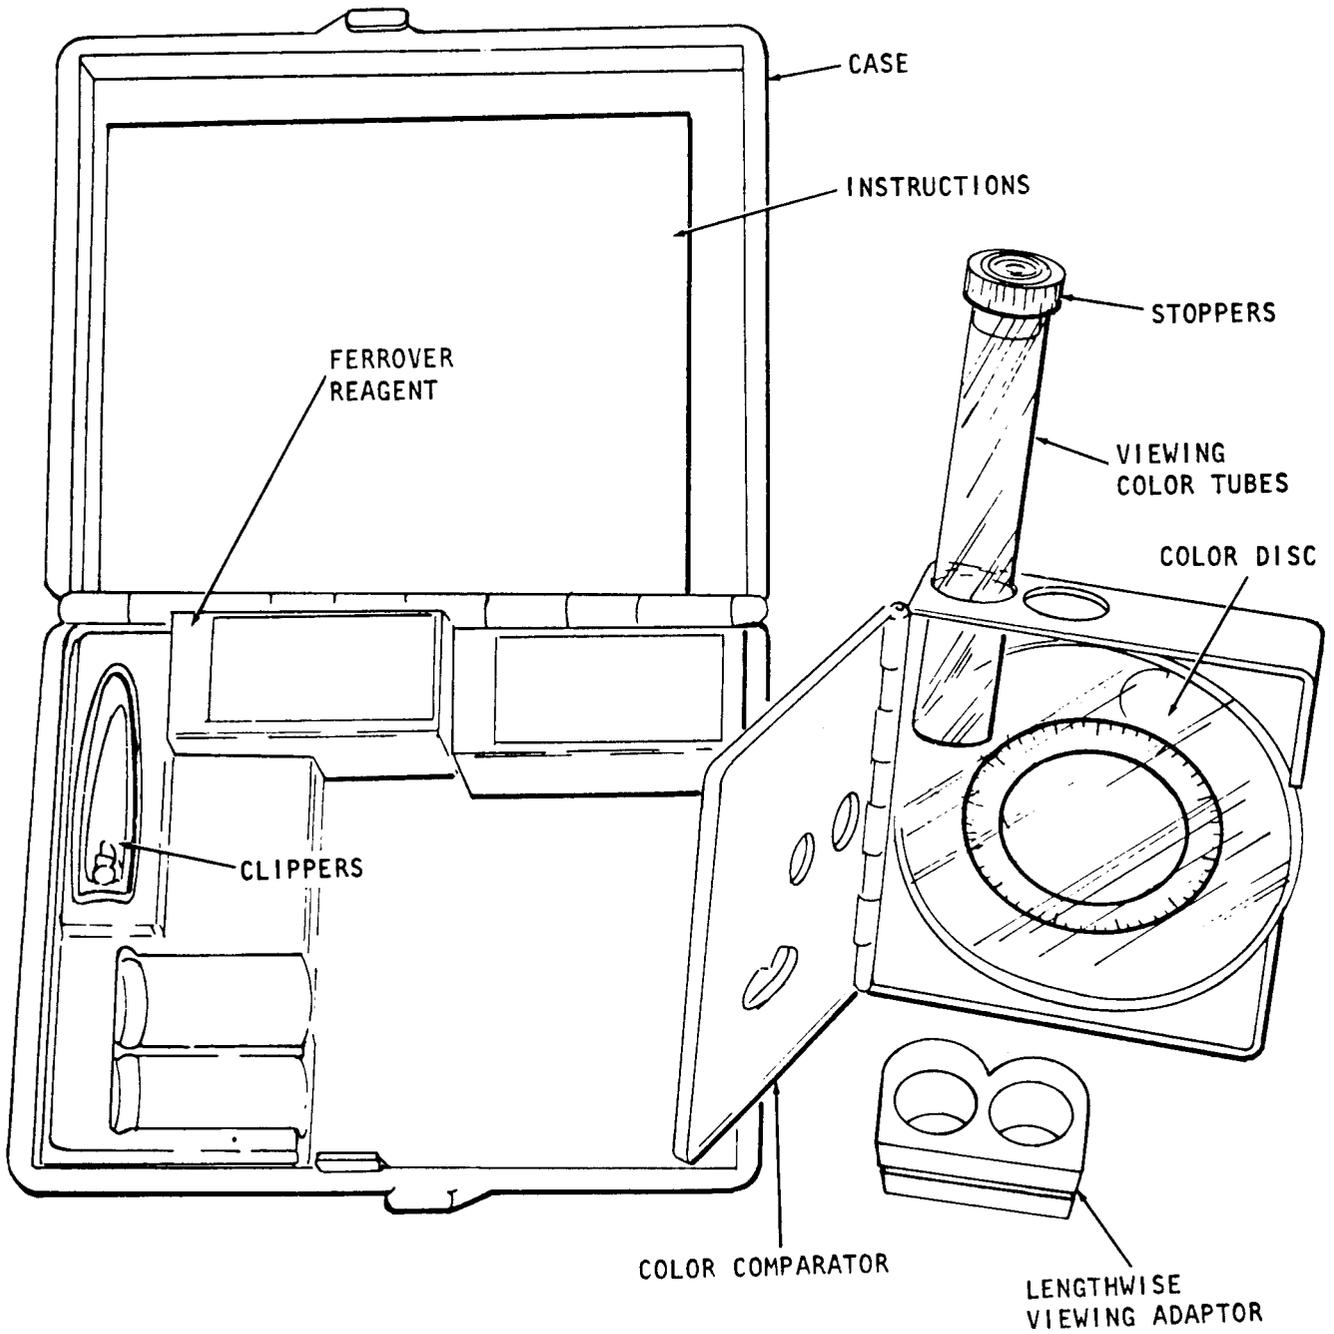

Figure 2-7. Ferric Iron Test Kit
c. Ferric Iron Test Kit Range 0-10.0 mg/l (fig. 2-7).
(1) Iron in water. Natural waters contain variable but minor amounts of iron. Iron in ground waters is normally present in the ferrous ( $Fe^{++}$ ) or soluble state which is easily oxidized to ferric ( $Fe^{+++}$ ) or insoluble iron on exposure to air. Iron can enter a water system by leaching natural deposits from ironbearing industrial wastes, effluents from pickling operations, or acidic mine drainage.
(a) If the lengthwise viewing adapter is in place, remove it. (Figs. 2-7 and 2-8).